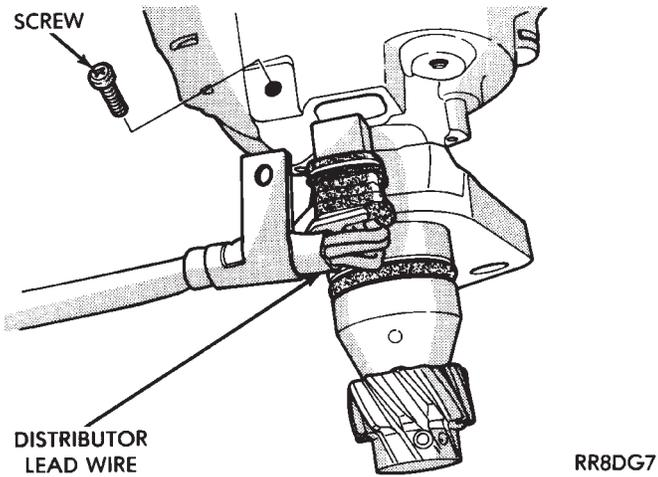

Fig. 26 Lead Wire Clamp
(5) Remove lead wire clamp screw and remove lead wire (Fig. 26).